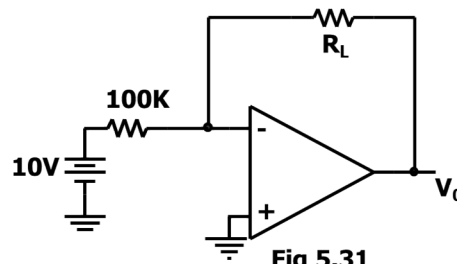

Fig 5.31
**Problem 13: In the circuit in fig 5.31, If  $R_L$  varies from 1k to 60 k. What is the variation in  $V_o$ ?**